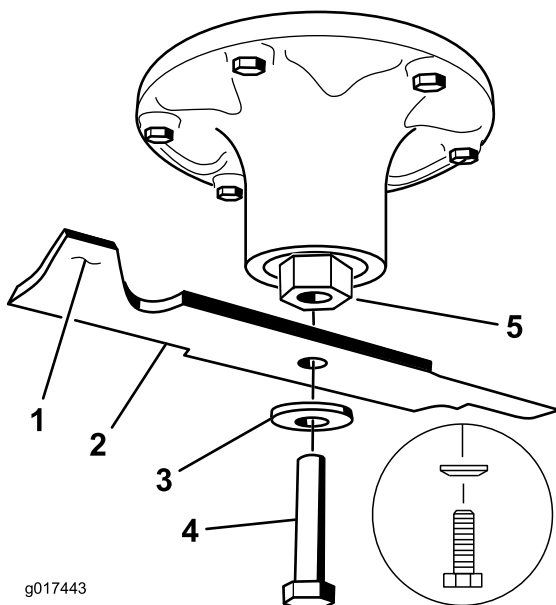

Figure 79
2. Remove the blade bolt, curved washer, and blade from the spindle shaft (Figure 79).
1. Install the blade onto the spindle shaft (Figure 79).
2. Install the curved washer and blade bolt (Figure 79).